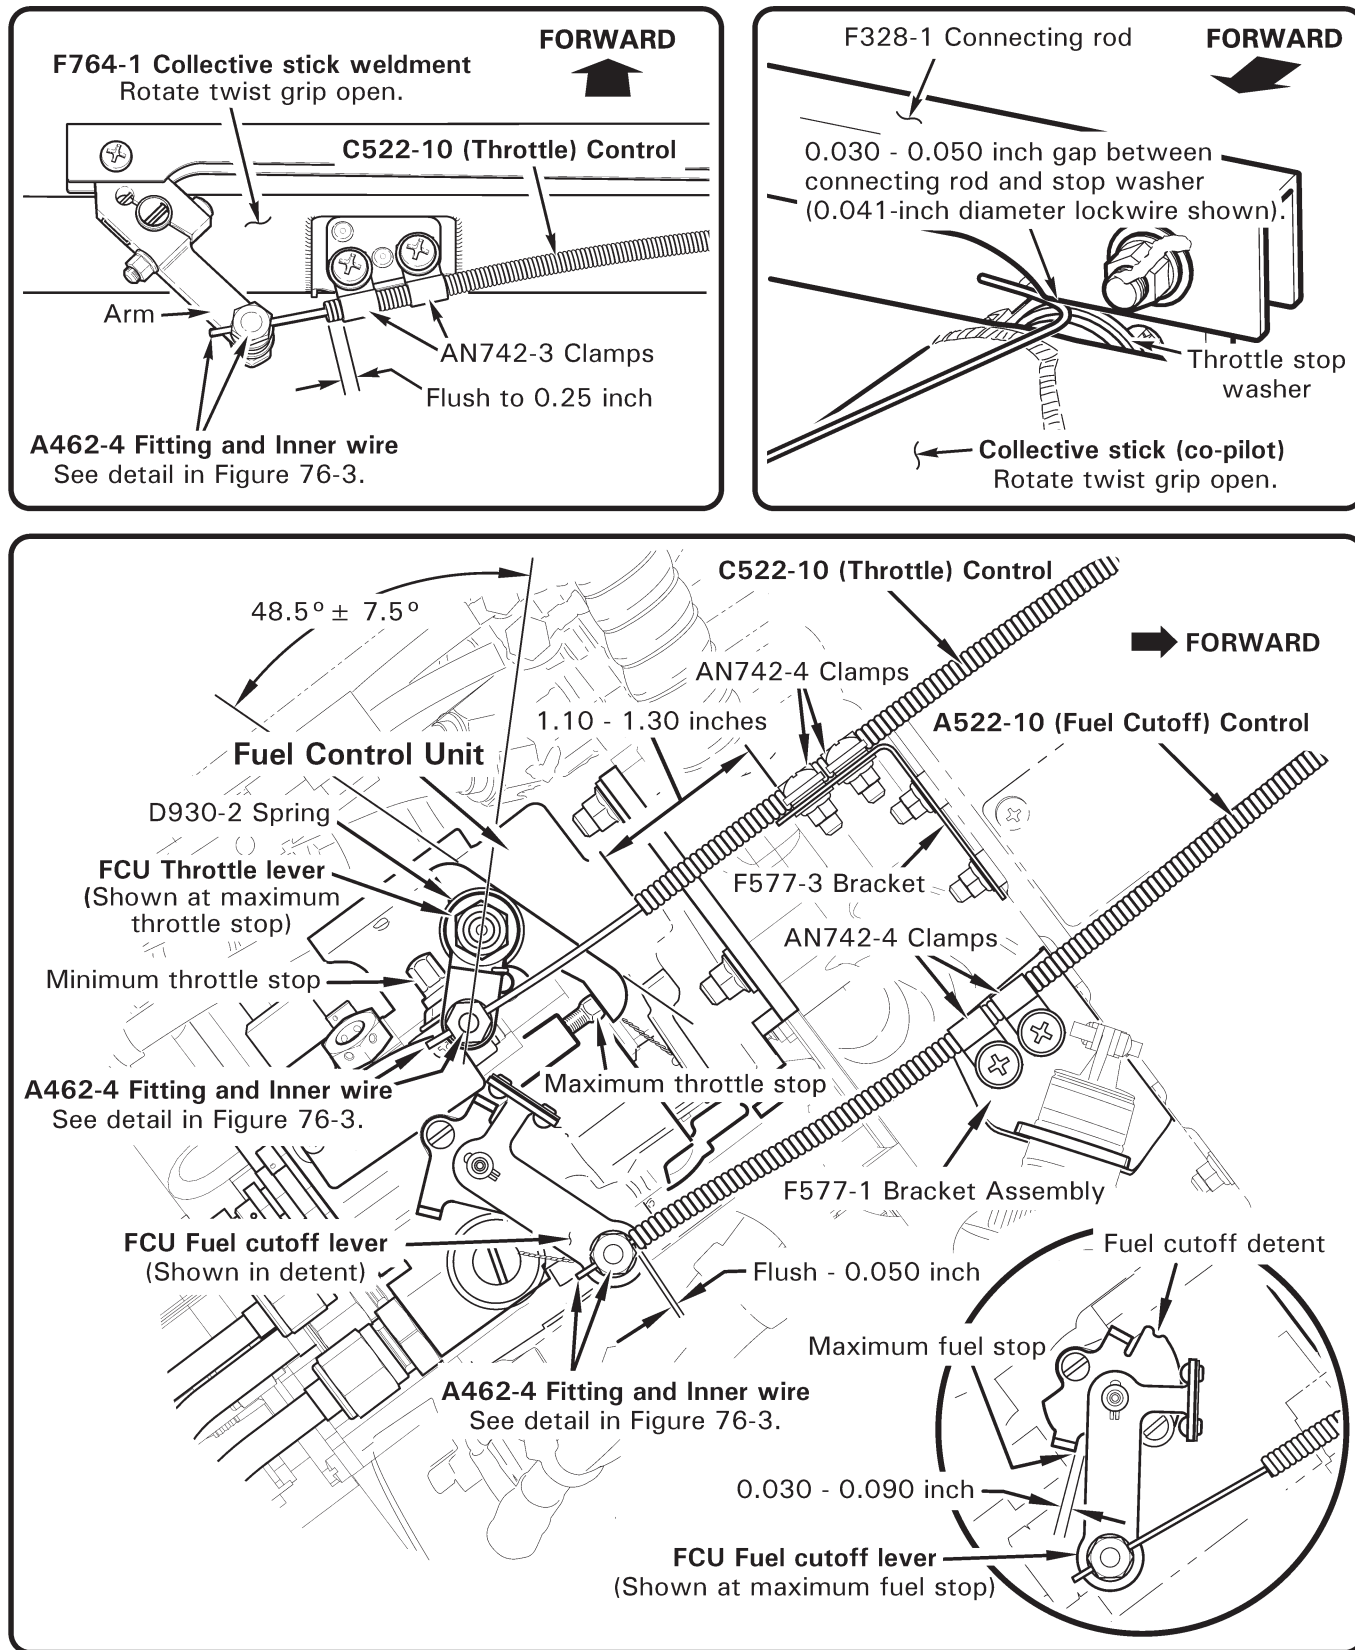

FIGURE 76-1 FUEL CONTROL UNIT
2. Refer to Figure 76-1. Remove D930-2 spring from fuel control unit.
2. Refer to Figure 76-1. Remove fasteners securing C522-10 throttle and A522-10 fuel cutoff control inner wires to FCU throttle and fuel cutoff levers.